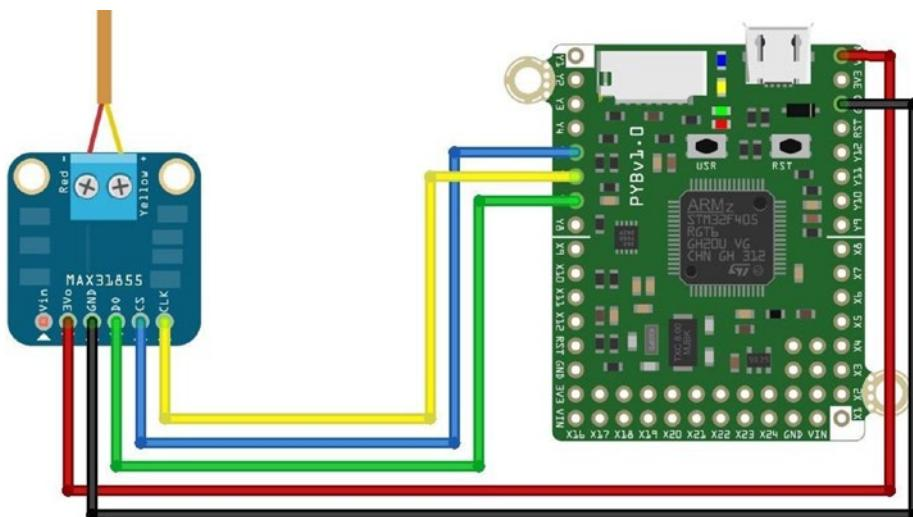

Figure 6-5. Wiring the Adafruit Thermocouple Module (Pyboard)
Now, let's see how to wire the breakout board to our Pyboard. We will use only five wires since we are only reading data from the sensor on the breakout board. This requires a connection to power (ground (GND), the master input (MOSI), clock (CLK), and slave select (SS). Figure 6-5 shows the connections.
The correct pins to use on the Pyboard are shown in Table 6-2. You can find these pins on the Pyboard pinout found at <https://docs.micropython.org/en/latest/pyboard/pyboard/quickref.html>. Refer to Figure 6-5 for confirmation.